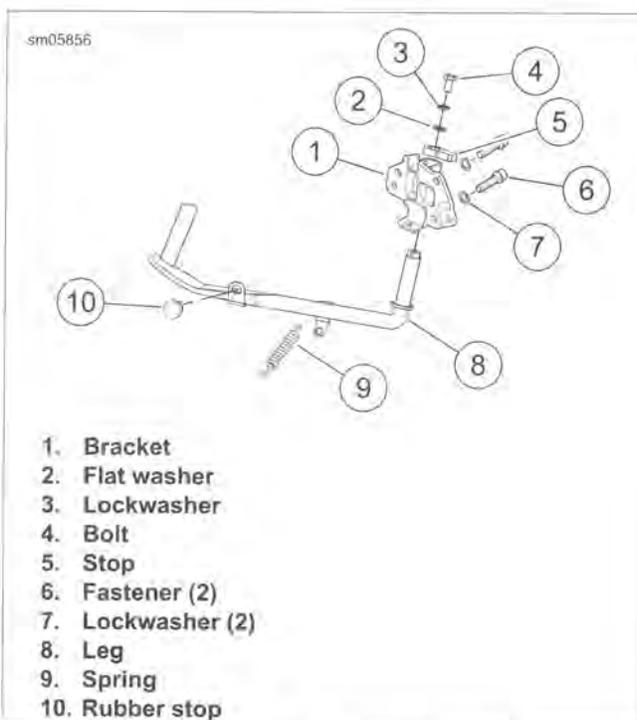

Figure 2-174. Jiffy Stand Assembly
2. See Figure 2-174. Move jiffy stand to the full forward (down) position. Remove hex bolt (4), lockwasher (3), flat washer (2) and leg stop (5).
3. Swing leg forward beyond the normal down position and remove end of spring (9) from leg. Remove leg (8) from bracket. Remove other end of spring from frame weldment.
3. See Figure 2-174. Remove jiffy stand leg (8). See 2.48 JIFFY STAND, Leg Removal.
4. Remove two fasteners (6) and lockwashers (7) to release jiffy stand bracket from frame weldment.
1. See Figure 2-174. Install two fasteners (6) and lockwashers (7) to secure front of bracket (1) to frame weldment.
3. Tighten front fasteners (6) to 36-42 ft-lbs (48.8-57.0 Nm).